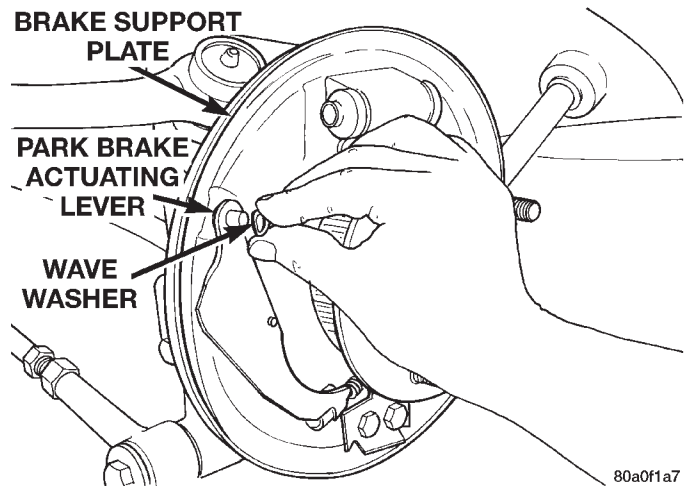

Fig. 70 Wave Washer Installation
(2) Install the wave washer on the pin of the park brake actuating lever (Fig. 70).